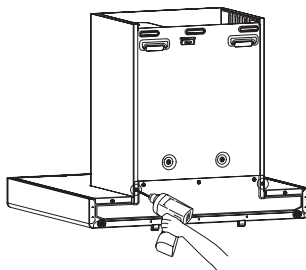

Fig.8
2. Remove the fan cover and decorative hood (only for EMG6020-C/EMG6020-CY): remove the 2 screws that fix the fan cover behind the main body with a screwdriver(see Fig.8), and then grab the fan cover and decorative hood with both hands to take them out upward(see Fig.9);